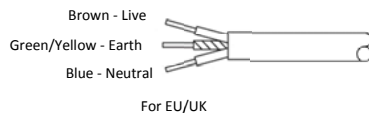

Fig. 1 Suspension ring eye location
2. The luminaire comes with a fixed ring for suspension as standard, fit the ring to the M12 threaded hole in the top centre of the driver enclosure (Fig. 1)